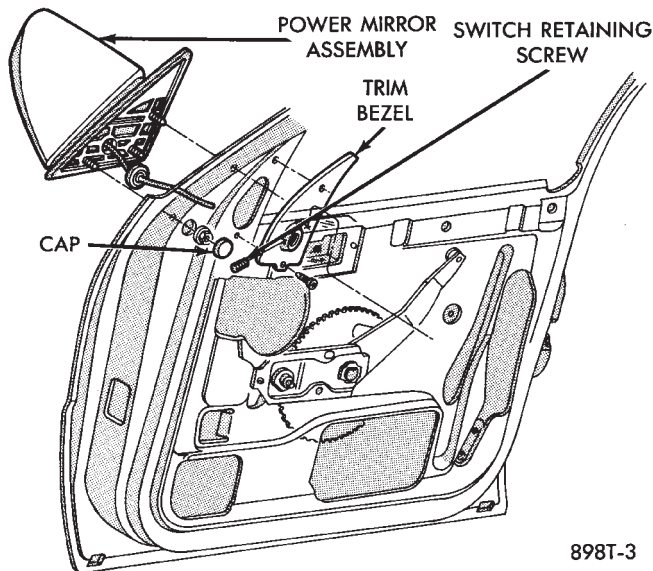

Fig. 13 Power Mirror Assembly — AA Body
- (1) Remove door trim panel.
- (2) Remove switch set screw from door pillar trim.
- (3) Remove two pillar trim bezel screws and remove bezel (Fig. 13).
- (4) Disconnect mirror wiring connector.
- (5) Remove three mirror retaining nuts and pull mirror and harness from door.
- (6) For installation, reverse above procedure. Test operation of mirror before installing door trim panel.